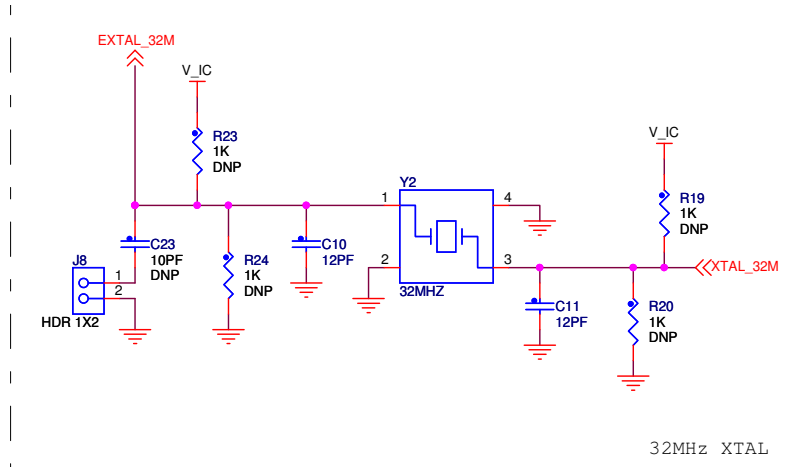

Figure 3-5. 1323x-MRB 32 MHz Reference Oscillator Circuit
- 32 MHz Reference Oscillator - Figure 3-5 shows the external 32 MHz external crystal Y2. This mounted crystal must meet the MC1323x specifications. The IEEE 802.15.4 Standard requires that the frequency be accurate to less than  $\pm 40$  ppm.